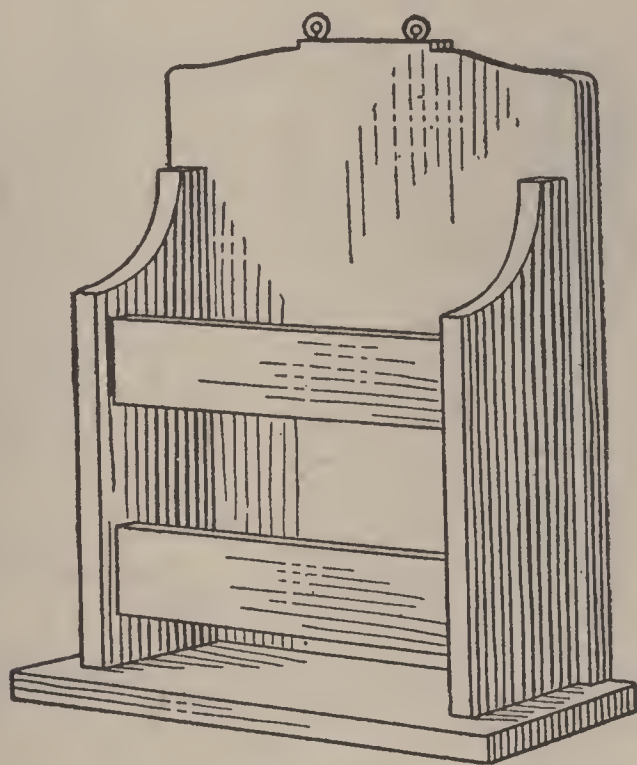

FIG. 162. A RACK FOR DODGERS, PROGRAMS, OR MAIL
The completed rack is shown in Fig. 162. Patterns for the back (A), sides (B), bottom (C), and front
out the parts, and Figure 162 shows how to assemble them.